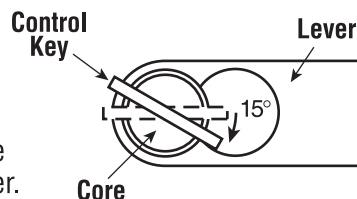

Figure 6
- A. Insert key marked CONTROL and turn clockwise approximately 15 degrees. See Figure 6.